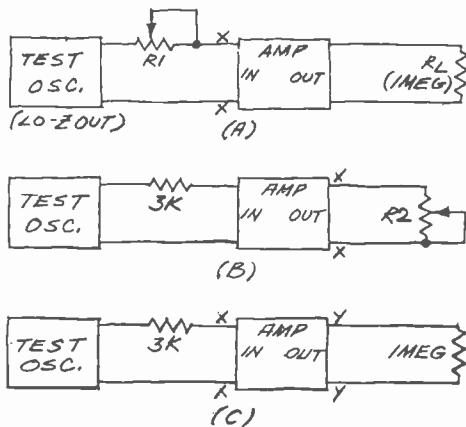

Fig. 9. Testing input/output impedances.
- 8. You may not wish to perform this last step, but if you have an audio generator, use the hookups shown in Fig. 9 to measure the important parameters of the circuit. Figure 9A is used to measure input impedance. Adjust $R1$ until the voltage at the input is half its maximum value. (The value of $R1$ should be greater than the estimated input impedance of the amplifier. Then remove $R1$ and measure its rotor-to-end resistance.